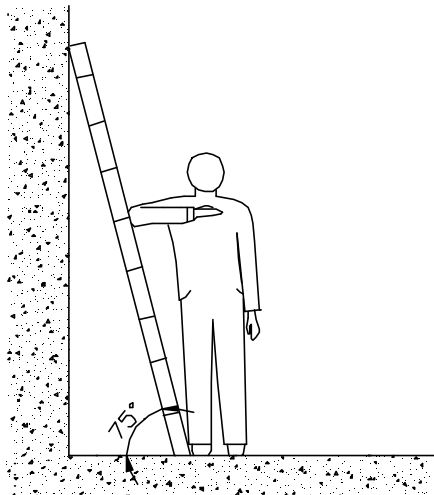

Figure 2 The angle at which the ladder should be leaned
- When operating under the conditions that the leaning distance of the ladder is over 5m, and that of the erected ladder with two-foot is over 3m, and other dangerous environment, the ladder should be held by somebody or relevant safe measures should be effected. The A-shaped ladder should be completely stretched for using, as shown in Figure 2 below.